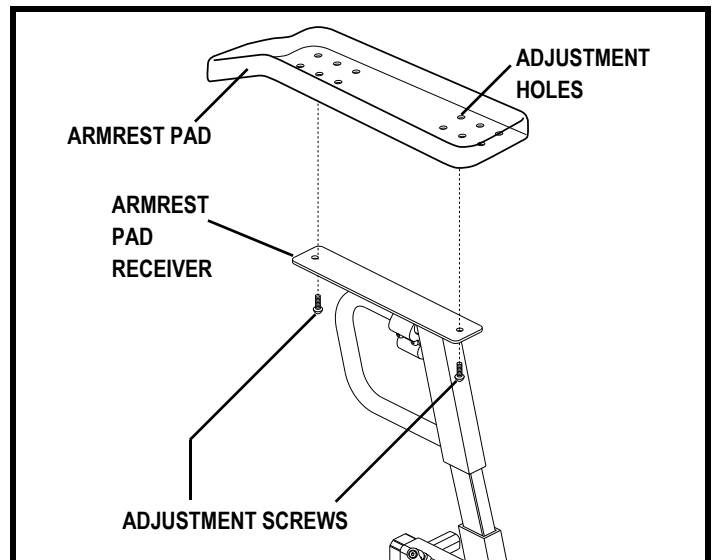

Figure 16. Armrest Pad Position Adjustment
1. Remove each adjustment screw from the underside front and back of the armrest pad. **See figure 16.**